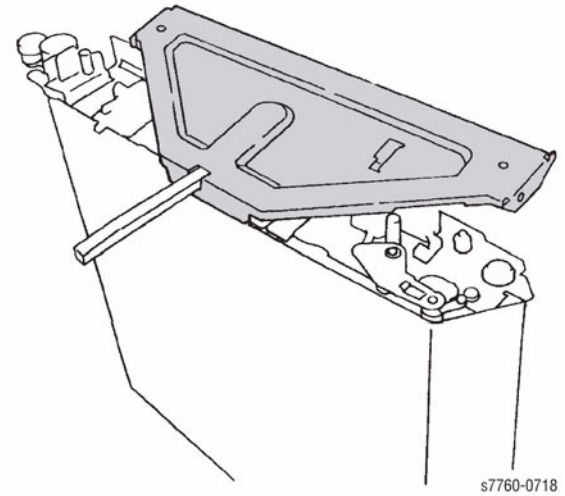

Figure 5 Installing Stand Plate
7. Install the Stand Plate (Figure 5).